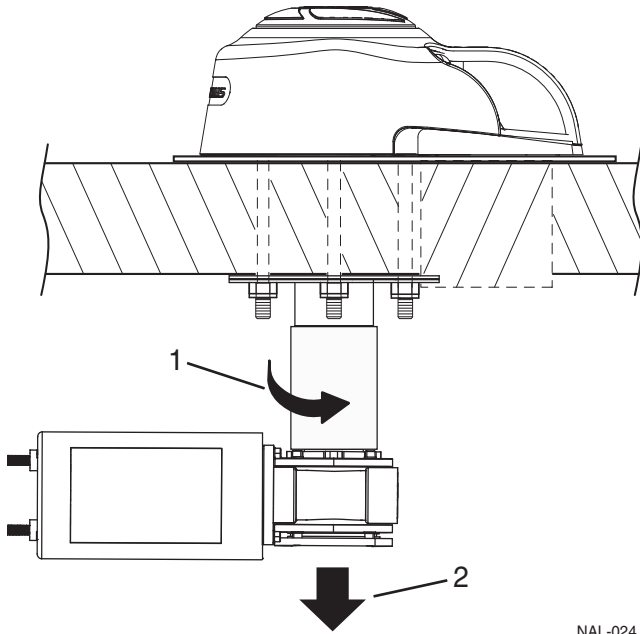

Figure 4-10
4. Once the locking cams engage, continue to push up on the motor gearbox, then rotate the motor gearbox 45° clockwise (**Figure 4-10, 1**) and allow the motor gearbox to slide down (**Figure 4-10, 2**) to lock into position.